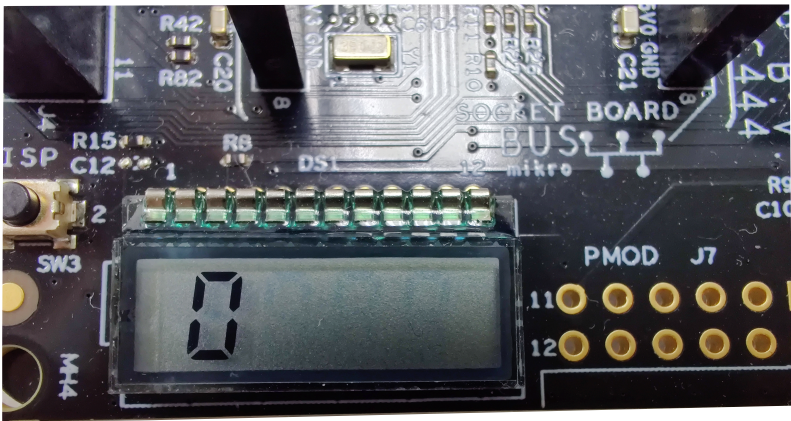

Figure 7. RUN mode
4. The initial power mode is RUN. For the RUN mode, the SLCD shows "0", as shown in Figure 7.